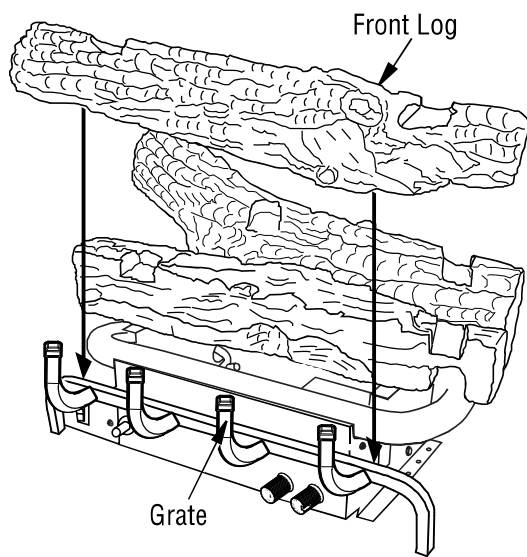

Figure 23 - Installing Front Log
- Place the front log onto grate as shown in **Figure 23**.